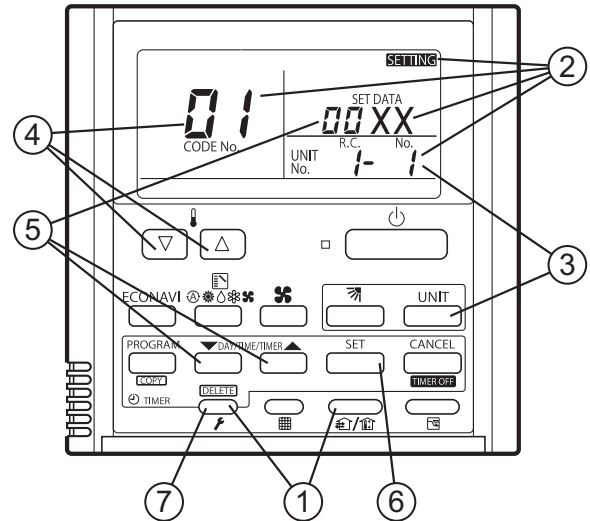

Fig. 1-3
- ① Press and hold the  and  buttons simultaneously for 4 seconds or longer.
- ② "SETTING", unit No. "1-1" (or "ALL" in the case of group control), item code "01", and settings data "00XX" are displayed blinking on the remote controller LCD display (Fig. 1-3). At this time, the indoor unit fan (or all indoor unit fans in the case of group control) begins operating.
- ③ If group control is in effect, press the  button and select the address (unit No.) of the indoor unit to set. At this time, the fan at the indoor unit begins operating.